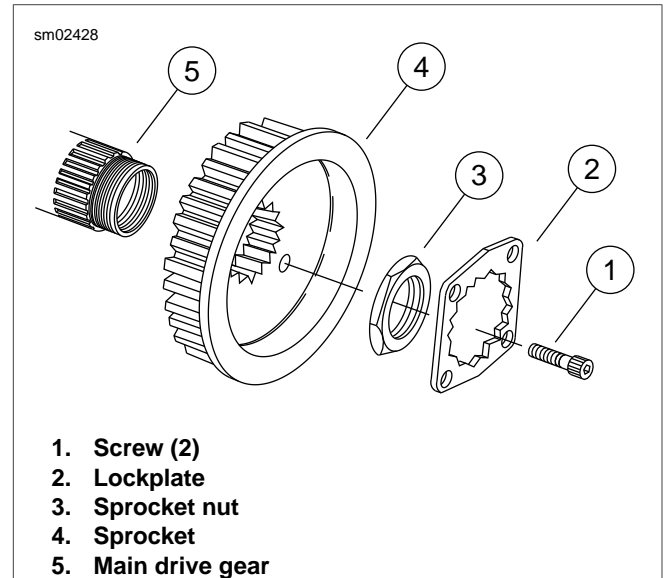

Figure 5-39. Transmission Sprocket
- a. See Figure 5-39. Remove two screws (1) and lockplate (2).
- See Figure 5-39. Install the sprocket nut. The following procedure is based on whether a new or used nut is being used.
- See Figure 5-39. Install screws (1) through two of the four holes in lockplate (2), then into two corresponding tapped holes in sprocket (4).